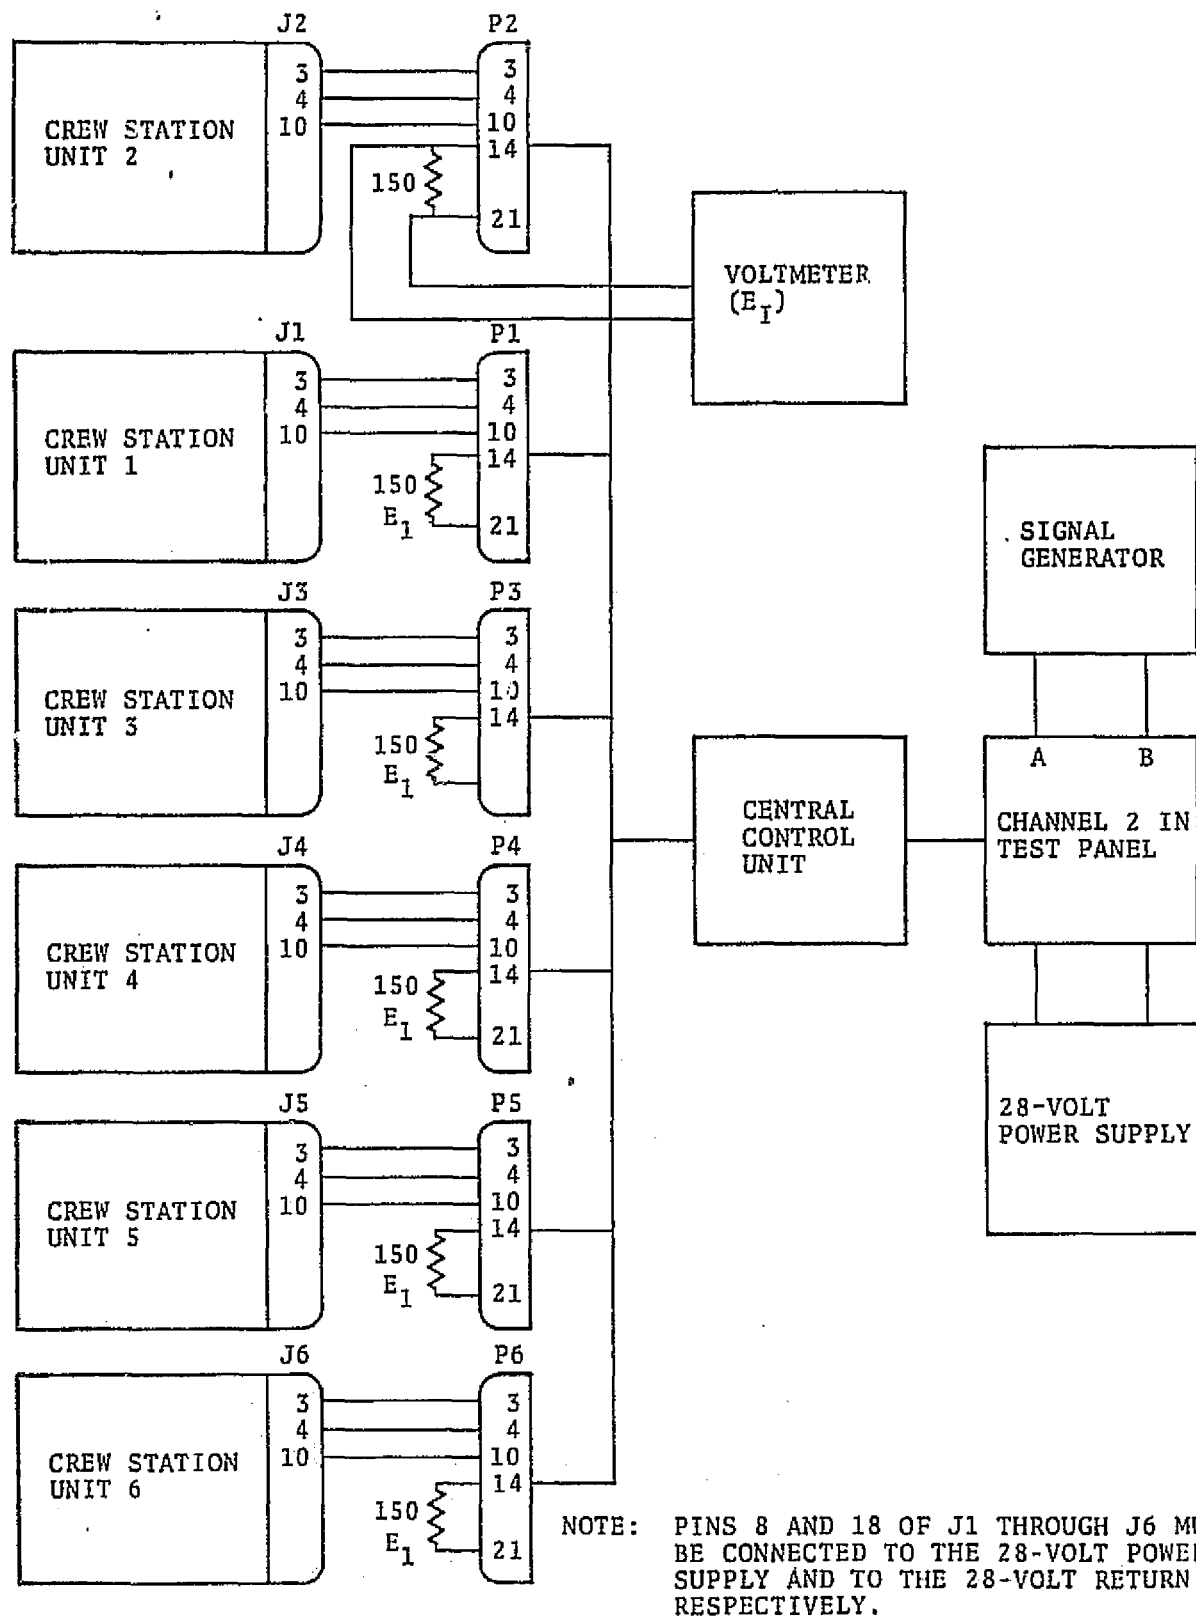

Figure 5-7. - Receive section test setup.
7. Connect the equipment as shown in figure 5-7. Install programming connector PC-1 in each CSU.